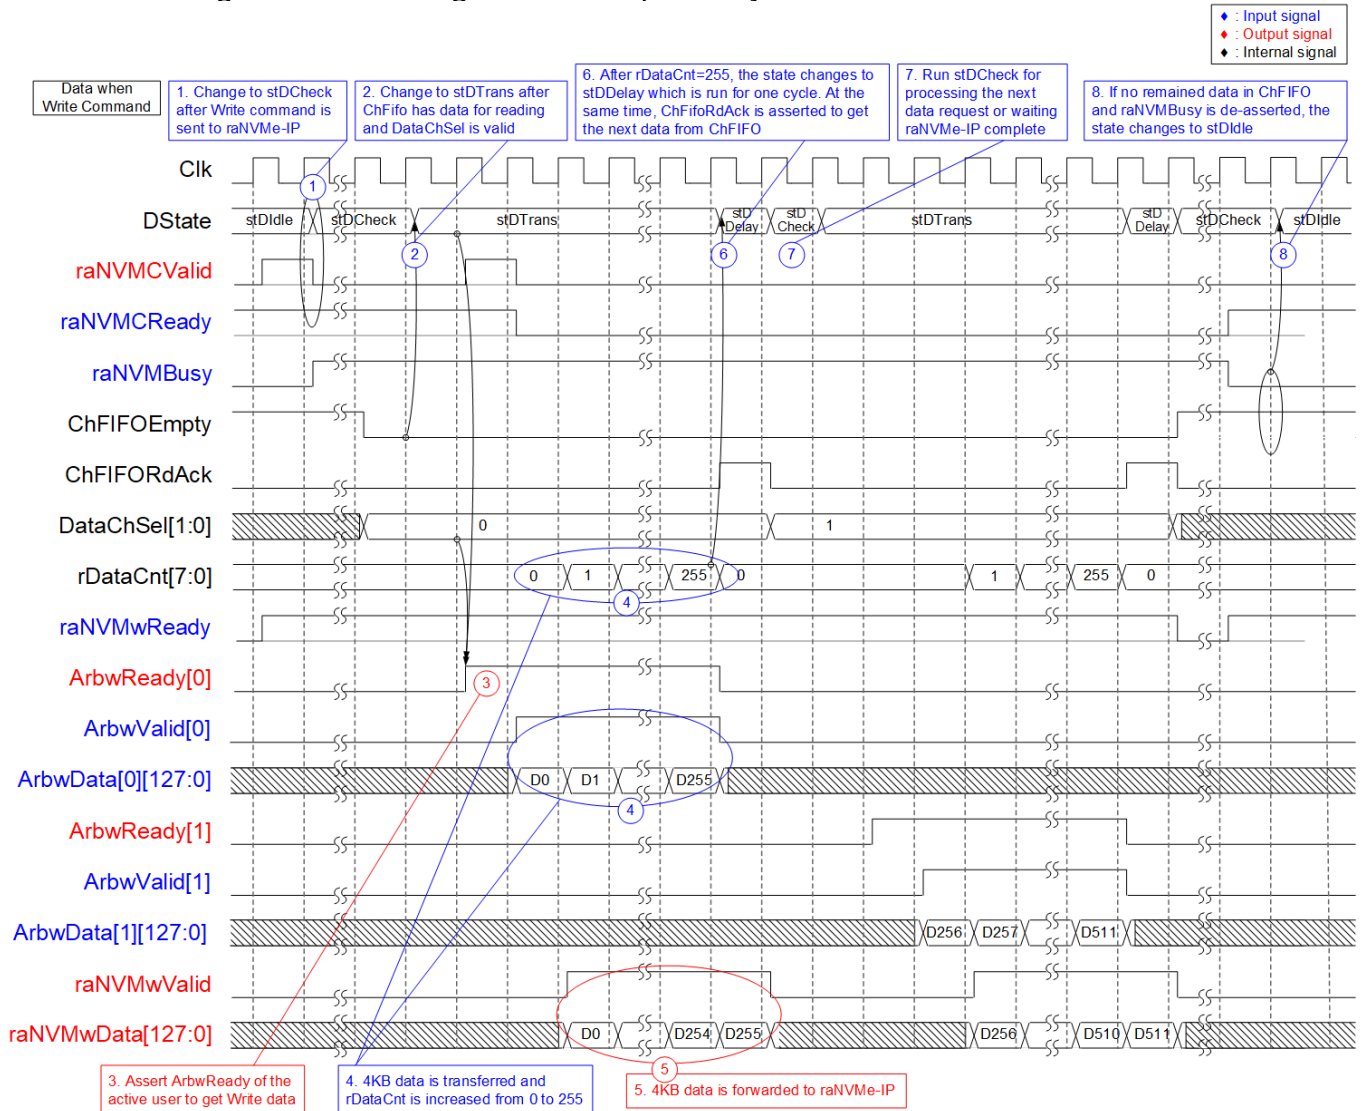
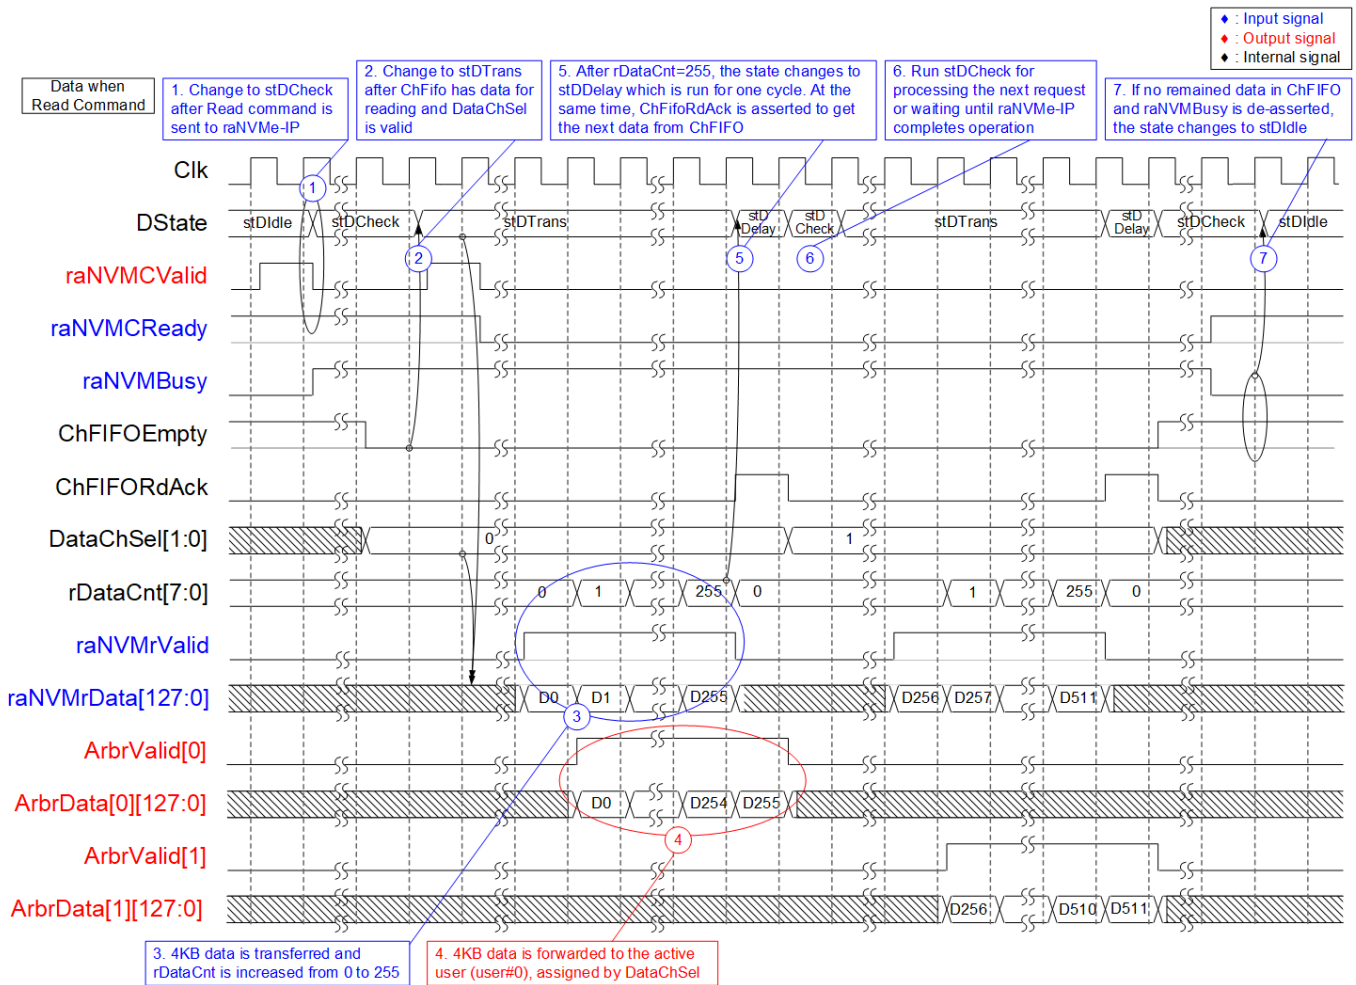

Figure 2-13 Timing diagram of raArbiter's Data I/F when running Write command
Figure 2-14 Timing diagram of raArbiter's Data I/F when running Read command
Timing diagram of Data interface when running Write command and Read command are shown in Figure 2-13 and Figure 2-14 respectively.
- (1) In stDIdle, it waits until Multiple command is sent to raNVMe-IP. In Figure 2-13, when raNVMCValid and raNVMCReady are asserted to '1' with setting raNVMCCmd to be Write command, the state changes to stDCheck to start transferring data from the user to raNVMe-IP. At the same time as sending Write command to raNVMe-IP, Command block writes the active user number to ChFIFO. Assume that user#0 and user#1 send Write command respectively.
- (2) After ChFIFO is written, ChFIFOEmpty is de-asserted to '0' and the read data of ChFIFO, DataChSel, is valid. Next, the state changes to stDTrans.
- (3) ArbwReady of the active channel (user#0), selected by DataChSel, is asserted to get 4KB write data from the active user.
- (4) Next, the active user sends 4KB write data (ArbwData) with asserting ArbwValid for 256 cycles. rDataCnt is increased from 0 to 255 for counting total number of transferred data.
- (5) The write data from user is forwarded to raNVMwData via data multiplexer, controlled by DataChSel. At the same time, raNVMwValid is asserted to '1' to be valid signal of write data.
- (6) After completing 256 data, rDataCnt=255, the state changes to stDDelay which is run for one cycle.
- (7) In stDDelay, ChFIFORdAck is asserted to '1' after completing to use the current read data. The next data from ChFIFO will be available if the data is available in ChFIFO. Next state is stDCheck for checking ChFIFO status. If ChFIFO has remained data (ChFIFOEmpty='0'), repeat step (2) to transfer the data of the next data request. Otherwise, it waits until raNVMe-IP completes the operation and goes to step (8).
- (8) If no remained data in ChFIFO and raNVMBusy is de-asserted to '0', it returns to stDIdle to complete the operation.